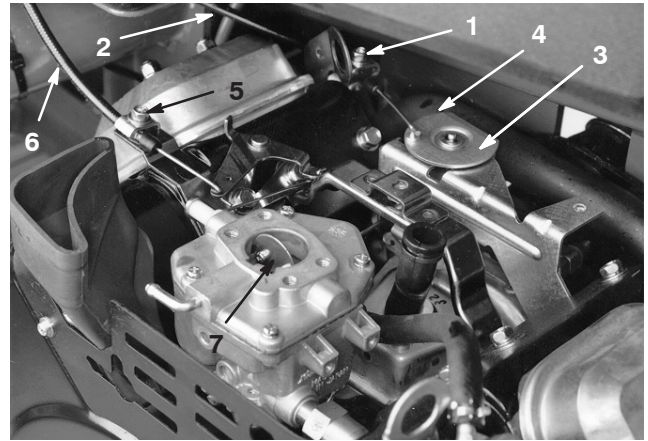

Figure 35
1. Loosen the cable clamp screw securing the cable to the engine (Fig. 35).
3. Pull firmly on the throttle cable until the back of the swivel contacts the stop (Fig. 35).
3. Pull firmly on the choke cable until the choke butterfly is completely closed, then tighten the cable clamp screw (Fig. 35).